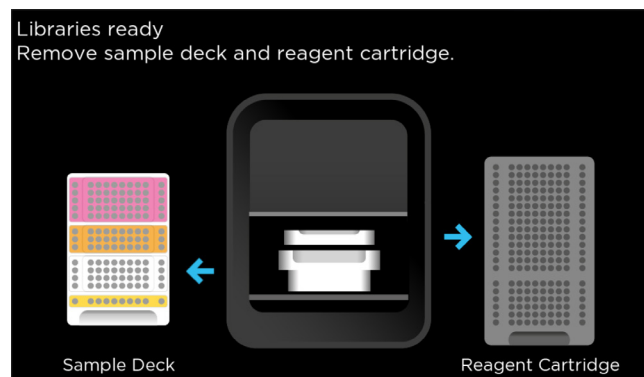

Figure 16. Libraries ready screen.
1. Assess the libraries by running 2 μ L of 5 ng/ μ L of each library on a Fragment Analyzer using the HS NGS Fragment Kit or 1 μ L on a Bioanalyzer with the High Sensitivity DNA Kit (Agilent Technologies). A typical fragment distribution for high quality inputs is shown in Figure 16.